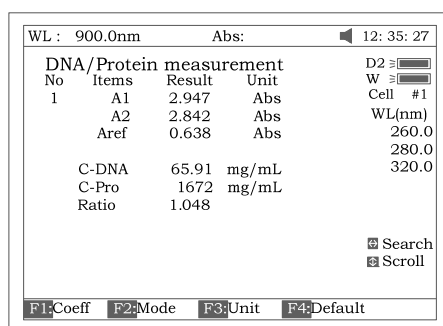

Fig 65
5. Pull the sample cuvette into the light path, press **[START]** to test the sample. The test result will be displayed on the screen (Fig 65).